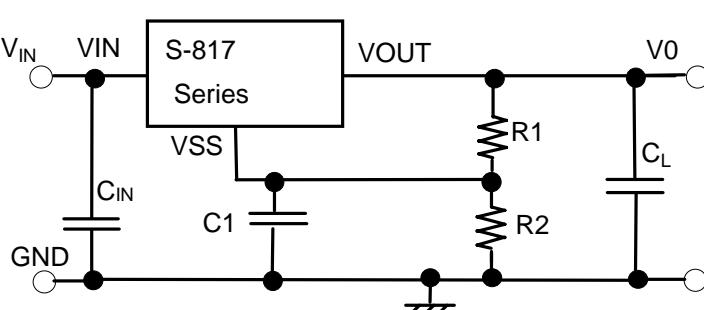

Figure 11 Voltage Adjustment Circuit
The output voltage can be boosted by using the configuration shown in Figure 11. The output Voltage  $V_O$  can be calculated using the following equation (VOUT (E):Effective output voltage):